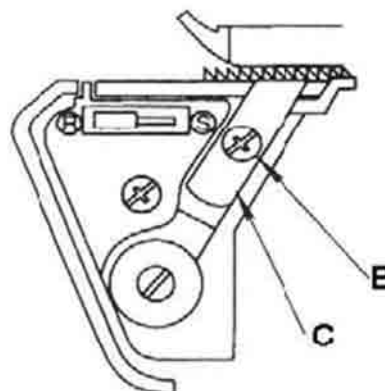

Fig. 111
2. Adjust the upper blade 18 into the rest position (A).
3. Remove the screw on the lower blade 22 (B) and remove the blade 22 (C) (Fig. 111).